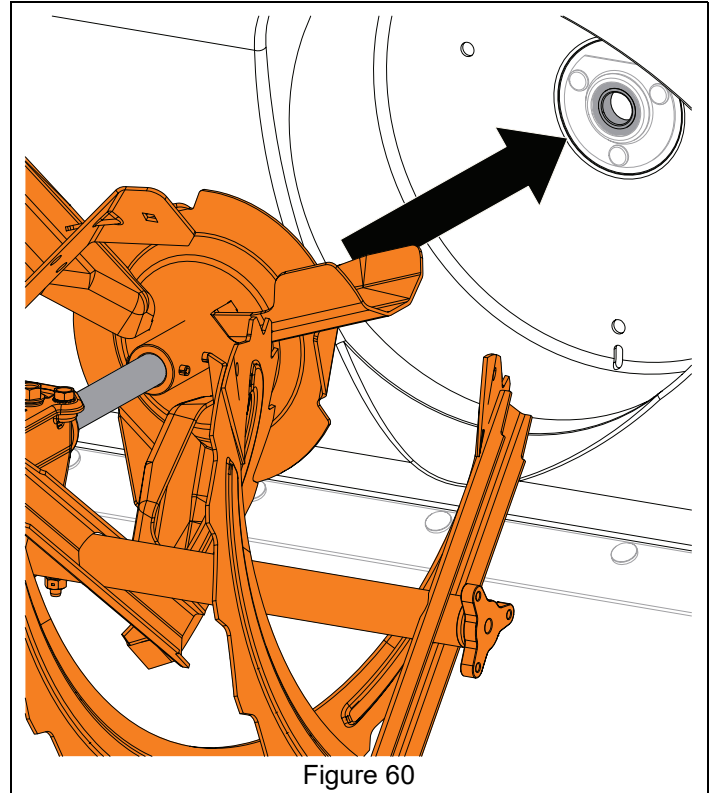

Figure 60
5. Reinstall auger assembly into housing and seat impeller shaft end into ball bearing at housing rear. See Figure 60.
3. Reinstall auger assembly into housing and seat impeller shaft in ball bearing at housing rear. See Figure 60.